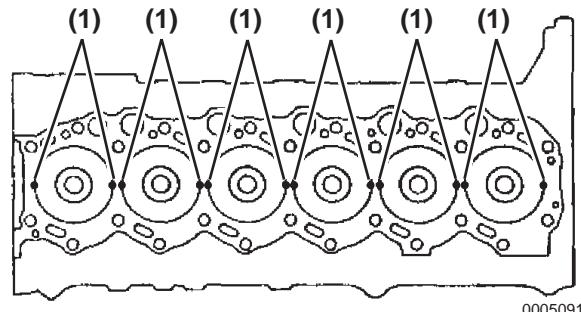

Figure 5-63
5. Measure each cylinder at two points for a total of 12 points (**Figure 5-63, (1)**).